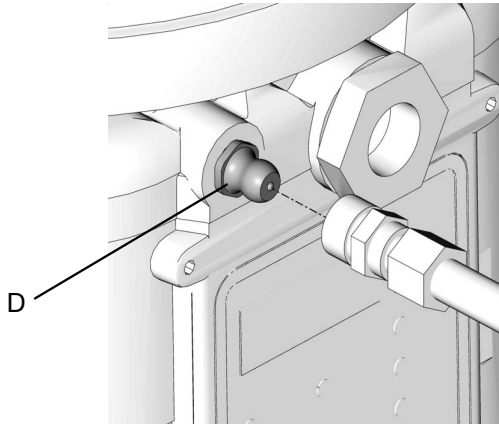

FIG. 19
- Always clean the fitting (D) (FIG. 19) with a clean dry cloth prior to filling the reservoir. Dirt and/or debris can damage the pump and/or the lubrication system.
1. Connect the fill hose to the Zerk Inlet Fill Fitting (FIG. 19).
1. Connect the fill hose to the inlet fitting (FIG. 19).